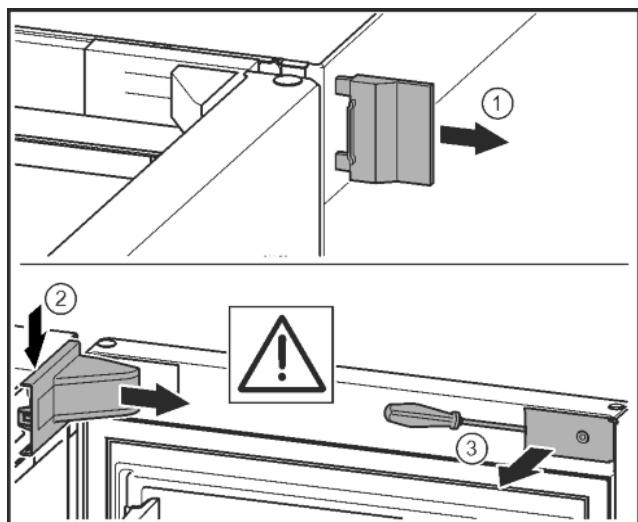

Fig. 7
- ▶ Remove the outer cover. Fig. 7 (1)
- ▶ Unlatch and undo the bearing bracket cover with a screwdriver. Remove the bearing bracket cover. Fig. 7 (2)
- ▶ Unlatch the cover plate with a slotted screwdriver and swivel it to one side. Fig. 7 (3)